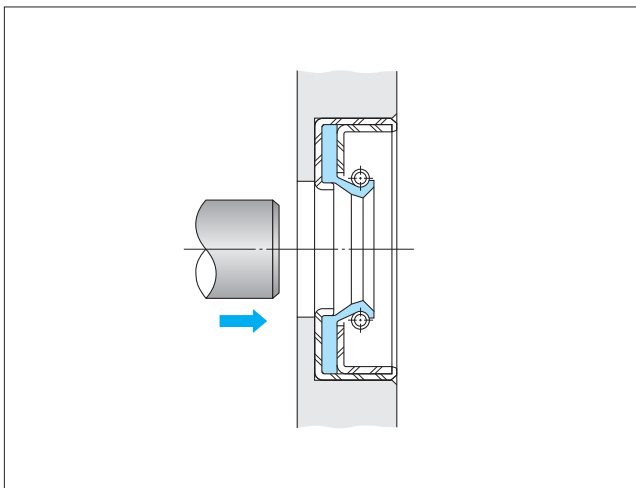

Fig. 7-14 Shaft Assembly Direction
- ❸ Insert the shaft in the direction indicated in Fig. 7-14.